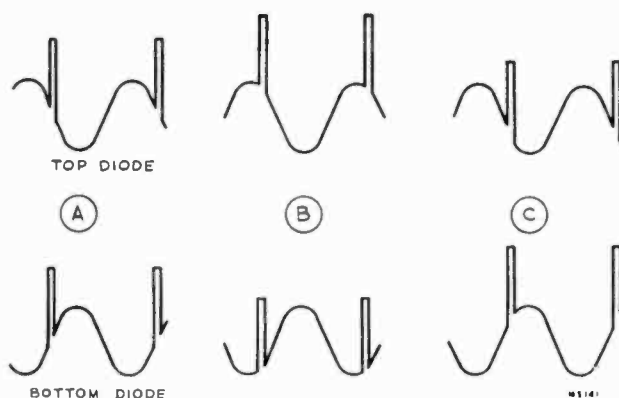

Figure 19—Sync Discriminator Waveforms
The sine wave oscillator voltages applied to the plates of V123 are equal in amplitude and opposite in phase. The synchronizing pulses from the second sync amplifier are fed through a small capacitor (C166) to attenuate the vertical sync and then applied to the center tap of T108. The horizontal sync pulses thus appear in phase and of equal amplitude on the diode plates as shown in Figure 19. When the pulse and sine wave are properly phased as in (A), both diodes will produce equal voltage across their load resistances, R191 and R192. However, these voltages are of opposing polarity and therefore the sum of the voltages across these two load resistors will be zero. If the phase of the pulse changes with respect to the sine wave as in (B), the top diode will produce more voltage across R191 than the bottom diode produces across R192. Thus, the voltage across the two will be positive. In (C) the reverse condition exists. It is obvious that the output of the discriminator can swing from positive through zero to negative dependent upon the phase relation of the synchronizing signal and the oscillator. This d-c output is applied to the grid of V124.